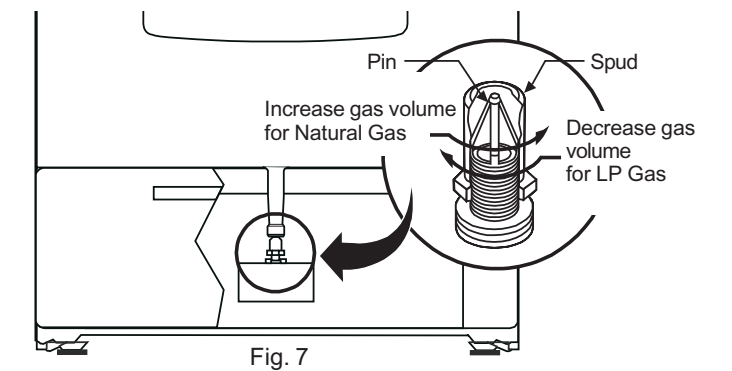

Fig. 7
1. Check orifice hood adjustment on the oven safety valve to be sure it is adjusted for the type of gas supplied to the range (Natural or LP - See Fig. 7).